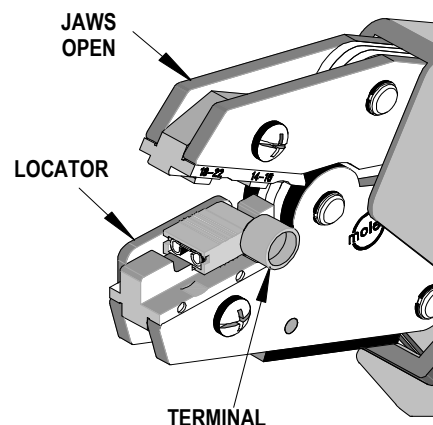

Figure 1
1. Place the flag terminal barrel into the conductor anvil of the lower jaw. Make sure the closed end of the barrel is touching the locator. See Figure 1.